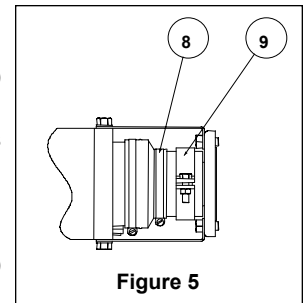

Figure 5
3. Disconnect the pump inlet and discharge flanges from the piping system. See Figure 5.